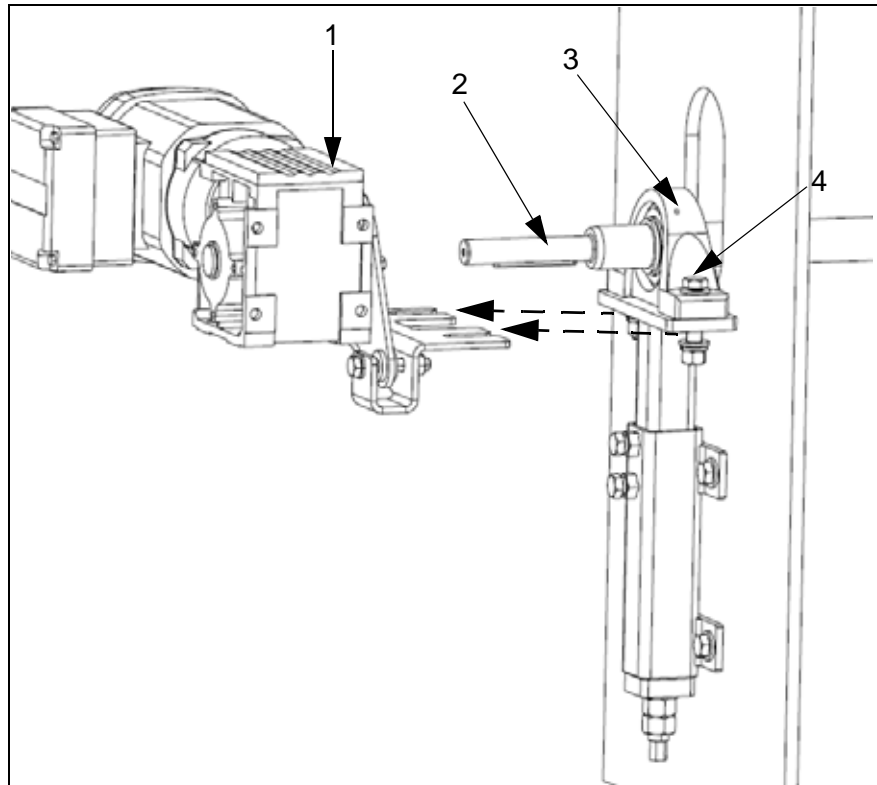

Fig. 14:
1. Loosen the clamping screws (1, Fig. 14).
2. Loosen the lock nuts (2, Fig. 14).
3. Loosen the securing nuts (4, Fig. 14).
4. Turn adjusting screw (3, Fig. 14) in the clockwise direction to lower the brush cleaner.